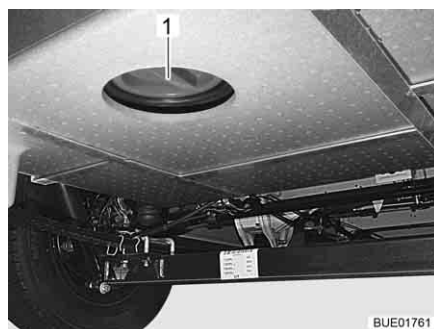

Fig. 230 Cleaning opening on the waste water tank
- Open the cleaning opening (Fig. 230,1) on the waste water tank and the drain cock.